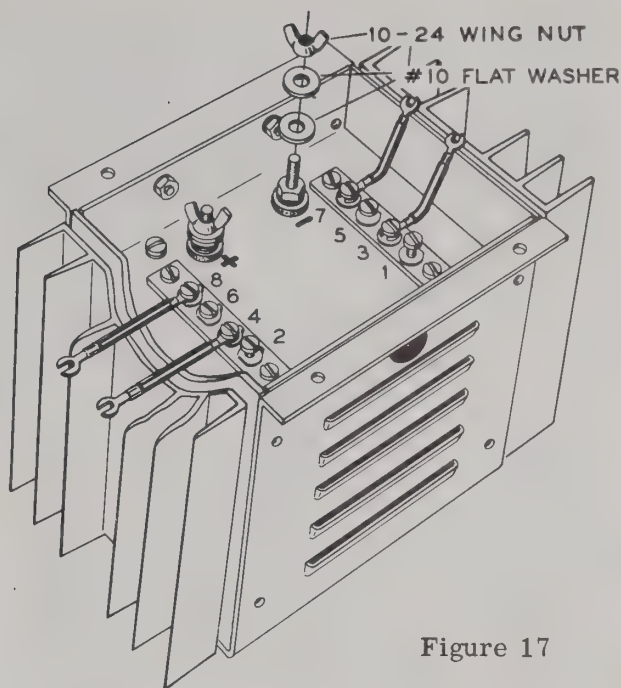

Figure 17
Refer to Figure 17 for the following steps.
- (✓) Fasten these jumpers to the 4-lug terminal strips (screw type) as shown in Figure 17.